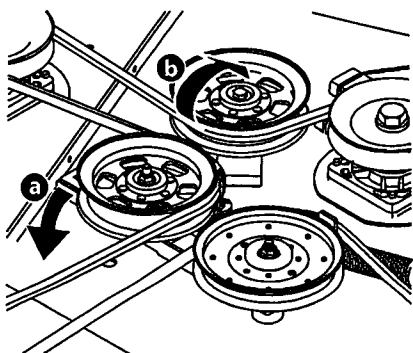

Figure 4-13
- b. Working from the middle of the tractor, pivot the idler bracket and movable idler pulley rearward away from the backside of the "V" belt (a) just far enough to lift the belt up and over the idler pulley (b). See Figure 4-13.